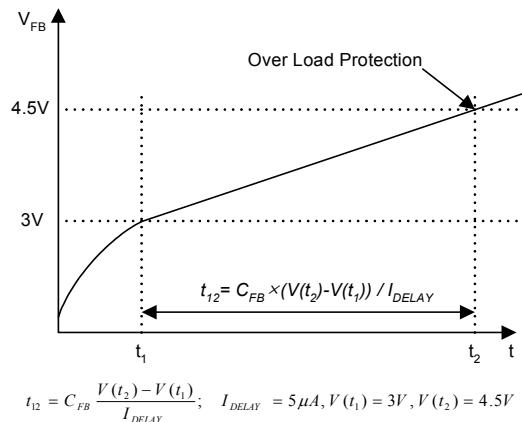

Figure 10. Over Load Protection (OLP)
4.1 Over Load Protection (OLP) : Overload is defined as the load current exceeding a pre-set level due to an unexpected event. In this situation, the protection circuit should be activated in order to protect the SMPS. However, even when the SMPS is operating normally, the over load protection (OLP) circuit can be activated during the load transition. In order to avoid this undesired operation, the OLP circuit is designed to be activated after a specified time to determine whether it is a transient situation or an overload situation. In conjunction with the Ipk current limit pin (if used) the current mode feedback path would limit the current in the Sense FET when the maximum PWM duty cycle is attained. If the output consumes more than this maximum power, the output voltage (V_o) decreases below its rating voltage. This reduces the current through the opto-coupler LED, which also reduces the opto-coupler transistor current, thus increasing the feedback voltage (V_{FB}). If V_{FB} exceeds 3V, the feedback input diode is blocked and the 5uA current source (I_{DELAY}) starts to charge C_{FB} slowly up to Vcc. In this condition, V_{FB} increases until it reaches 4.5V, when the switching operation is terminated as shown in Figure 10. The shutdown delay time is the time required to charge C_{FB} from 3V to 4.5V with 5uA current source.